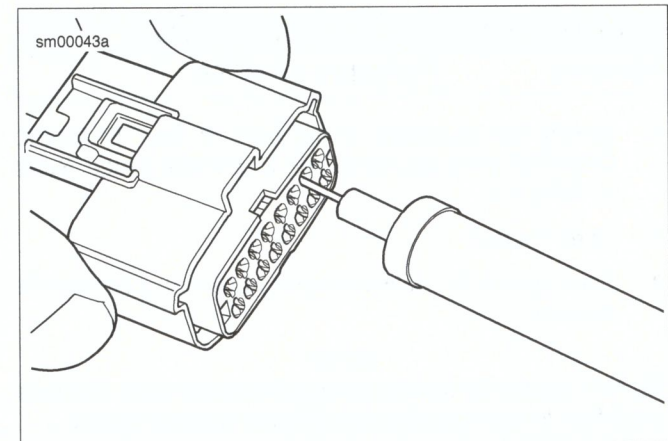

Figure A-15. Molex MX 150 Sealed Connector: Terminal Remover (HD-48114)
2. See Figure A-15. Insert TERMINAL REMOVER (Part No. HD-48114) into the pin hole next to the terminal until the tool bottoms.